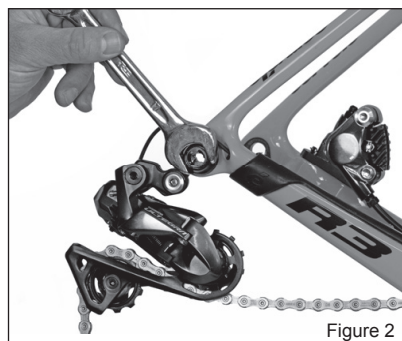

Figure 2
6. Using a 17 mm open end wrench, remove the hanger fixing nut from the outside of the frame on the derailleur. These are threaded with traditional right-handed threads so turn it “lefty-loosey.” (Figure 2)